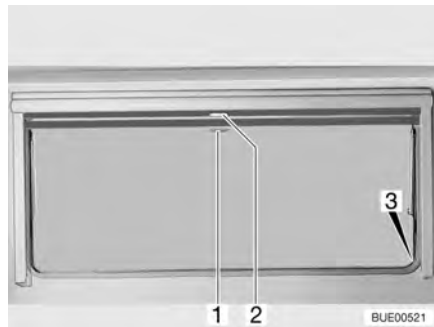

Fig. 58 Hinged window
- Pull blind at the handle (Fig. 58,2) downwards. If the blind is to be completely closed, it is suspended into the locking devices (Fig. 58,3) situated on both sides of the window frame.
- If the blind is completely closed: Press handle (Fig. 58,2) downwards and, at the same time, tilt it slightly inward. The blind can be taken out of the locking devices situated on both sides of the window frame.
- If the blind is in an intermediate position: Pull the handle (Fig. 58,2) slightly downwards until the locking device releases.
- Pull insect screen at the handle (Fig. 58,1) down and hang it into the locking devices (Fig. 58,3) situated on both sides of the window frame.
- Press handle (Fig. 58,1) downwards and, at the same time, tilt it slightly inward. The insect screen can be taken out of the locking devices situated on both sides of the window frame.